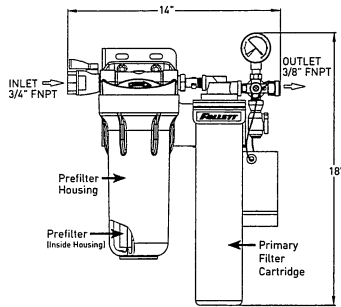

Figure 2
1. Use the predrilled mounting holes in the manifold bracket as guides. Mark and drill anchor holes. Mount securely. See Figure 2.
11. Open the flushing valve and flush the cartridge(s) by running water through at full force for five (5) minutes. This will set the filtering media and purge any air and fines, insuring maximum filter life. See illustrations.